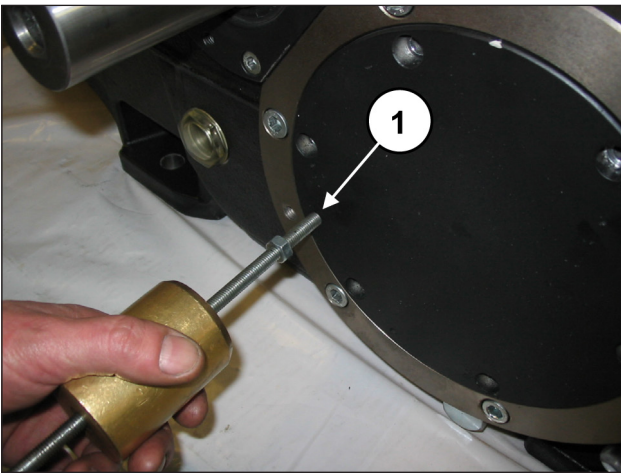

Fig. 11
To help with their removal, use 2 x M8 grub screws or screws (pos. ①, Fig. 11) as extractors.